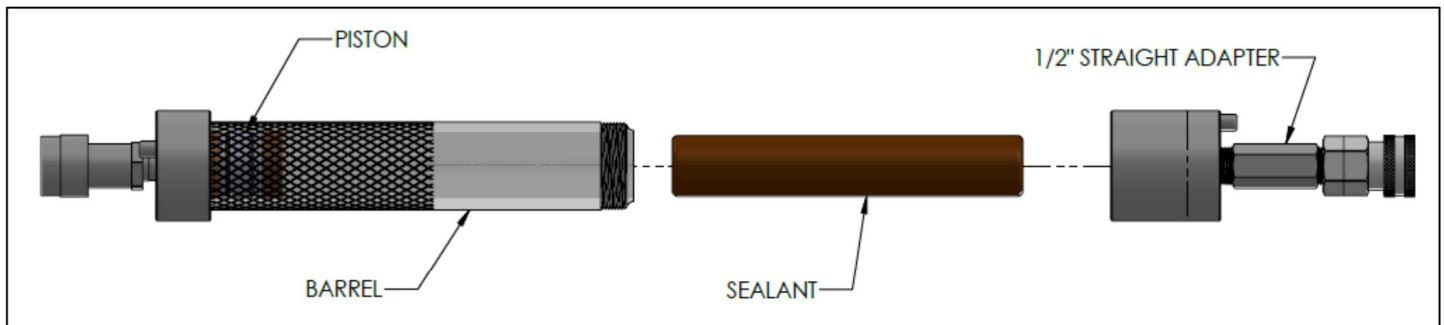

Figure 7
- 3.) Once the piston has been pushed to the bottom of the barrel insert the selected sealant. Screw on the 1/2" straight nipple cap, or the 90-degree adapter. Proceed to injecting sealant. When the barrel is empty repeat step 2 and 3 to load more sealant. See Figure 7.